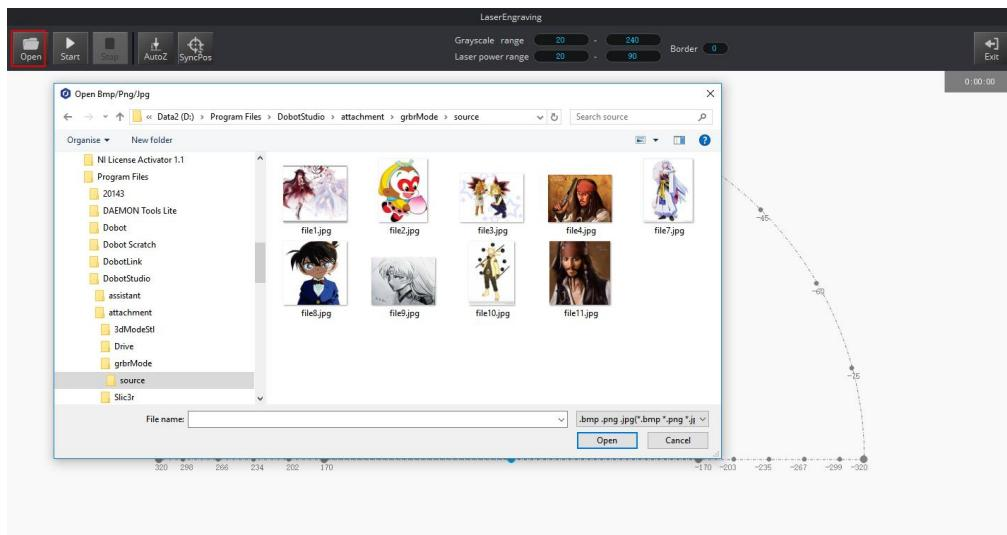

Figure 5.83 Import an image file
**Step 2** Click **Open** to import an image file such as BMP, JPEG, or PNG, as shown in Figure 5.83.